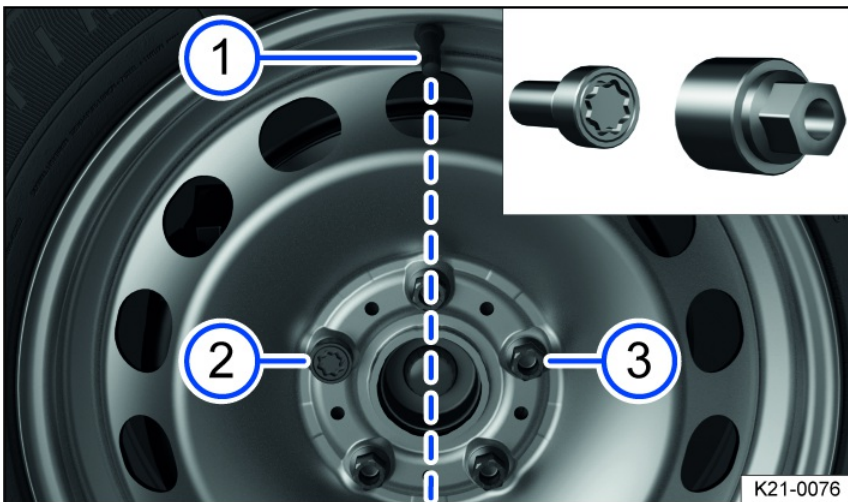

Fig. 187 Changing a tire: tire valve ① and locations of the anti-theft wheel bolt ② or ③.
On wheels with full wheel covers, the anti-theft wheel bolt must be fitted in position *fig. 187* ② or ③, based on the position of the tire valve ①. Otherwise, it will not be possible to install the full wheel cover.